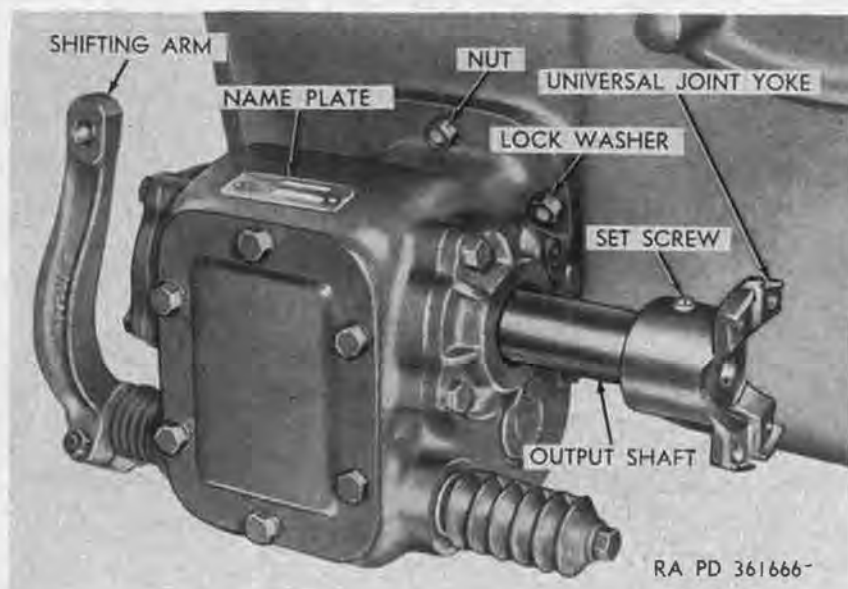

Figure 210. Transmission mounted power-take-off (all models except M51).
- (2) *Power-take-off (mounted on transmission) (all vehicles equipped with front winch except M51).* The power-take-off (fig. 210) mounted on the transmission for powering the front winch only is a three speed (two *wind* speed and one *unwind* speed) unit. The output shaft on the front of the unit is connected to the input shaft on the rear of the winch (par. 256) by a propeller shaft. The power-take-off is controlled by a lever (par. 28) in the cab.
- (3) *Power-take-off (mounted on transmission) (dump truck M51 only).* The power-take-off mounted on the transmission (par. 204) for powering the front winch and the dump-body hydraulic hoist pump is equipped with two output shafts, one on the front and one on the rear of the unit. The front output shaft has three operating speeds, ((2) above), and is controlled by a lever (par. 28) in the cab. The rear output shaft speed varies with the speed of the engine. Operation of this shaft is controlled by a separate lever (par. 39) in the cab.
- (4) *Power-take-off (mounted on transfer) (medium wrecker truck M62 only).* The power-take-off mounted on the rear of the transfer (par. 206) of the medium wrecker truck
b. Removal (Transmission-Mounted Power-Take-Off) (All Vehicles Equipped With Front Winch Except M51) (fig. 210).
- (1) Drain transmission.
- (2) Remove cotter pin from end of power-take-off-control-rod yoke pin, remove yoke pin, and remove control rod from power-take-off shifting arm.
- (3) Loosen hex-socket setscrew in universal joint yoke on output shaft at front of power-take-off.
- (4) Remove six nuts and lockwashers securing power-take-off to transmission. Slide power-take-off free of mounting studs.
- (5) Tap yoke on output shaft lightly to remove front winch propeller shaft from power-take-off.
- (6) Remove and discard power-take-off mounting gasket.
c. Installation (Transmission-mounted Power-Take-Off) (All Vehicles Equipped With Front Winch Except M51) (fig. 210).
- (1) Clean gasket surfaces on transmission and power-take-off and install new gasket on studs on transmission.
- (2) Aline key on front output shaft with keyway in yoke on rear of front winch propeller shaft, and tap lightly on yoke to slide it onto output shaft.
- (3) Position power-take-off on mounting studs on side of transmission, and install six lockwashers and nuts on studs. Tighten nuts to 30 to 40 pound-feet torque.
- (4) Drive yoke onto front output shaft until inner end of key is flush with end of yoke, and tighten hex-socket setscrew in yoke.
- (5) Adjust and connect power-take-off control rod (a) through (d) below.
- (6) Fill transmission (par. 67).